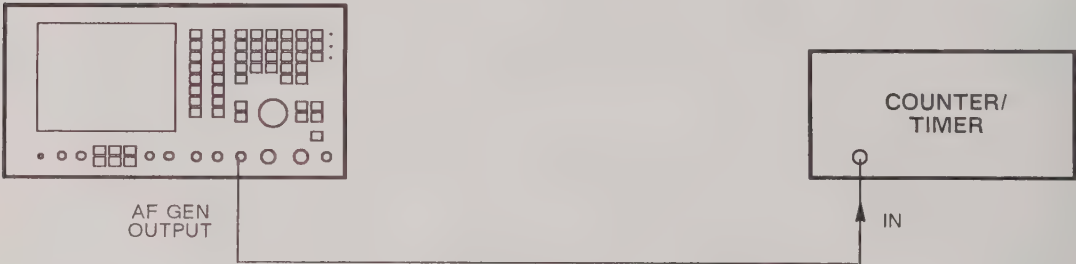

Fig. 6-14 Test equipment connections for AF generator frequency accuracy
- (1) Connect the counter/timer to the AF GEN OUTPUT socket. See Fig. 6-14.
- (2) On the 2955A, set the MODE to AUDIO TEST. Ensure that GEN 1 is ON and GEN 2 is OFF. Press the TONES and AUDIO SETUP keys. Set the GEN 1 FREQ to 15 kHz, LEVEL to 1 V and SHAPE to SINE.
- (3) Set the counter/timer to read period (to gain the required resolution).
- (4) On the counter/timer, check that the reading is between 66666.2 and 66667.1 ns (15 kHz ± 0.1 Hz).
- (5) Reset the GEN 1 FREQ to other frequencies between 100 Hz and 20 kHz and repeat (4) except check that the counter/timer readings are the same as the GEN FREQ setting ± 0.1 Hz.
- (6) Reset the GEN 1 FREQ to other frequencies between 10 Hz and 100 Hz and repeat (4) except check that the counter/timer readings are the same as the GEN FREQ settings ± 0.01 Hz.